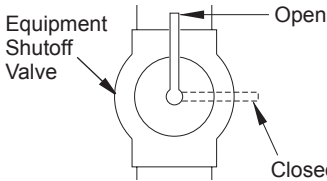

Figure 14 - Equipment Shutoff Valve
1. Close equipment shutoff valve (see Figure 14).
1. Open equipment shutoff valve (see Figure 14).
- Close equipment shutoff valve (see Figure 14, page 14).